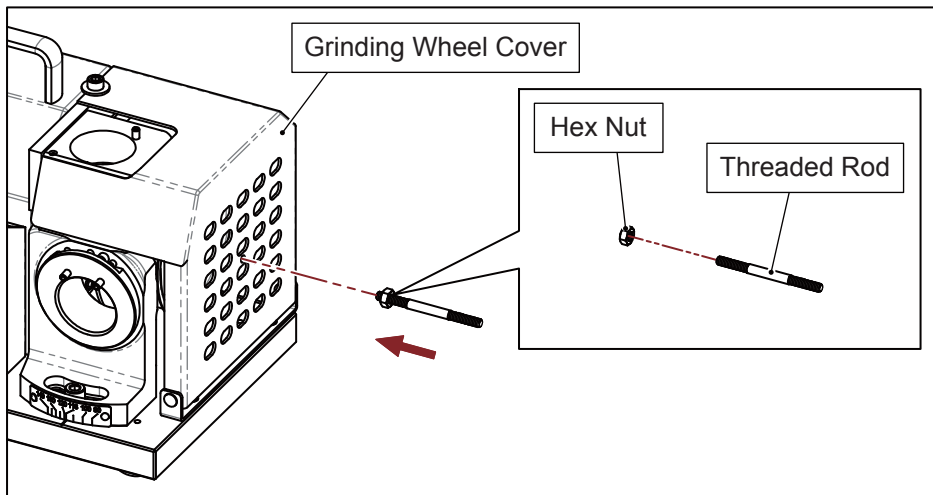

Fig. 2-1
1. Thread the hex nut onto the proper position of the threaded rod, align the end of the threaded rod containing the hex nut with the tapped hole of grinding wheel cover, and turn the threaded rod clockwise to thread the rod into the grinding wheel cover and tighten lightly. (Fig. 2-1)